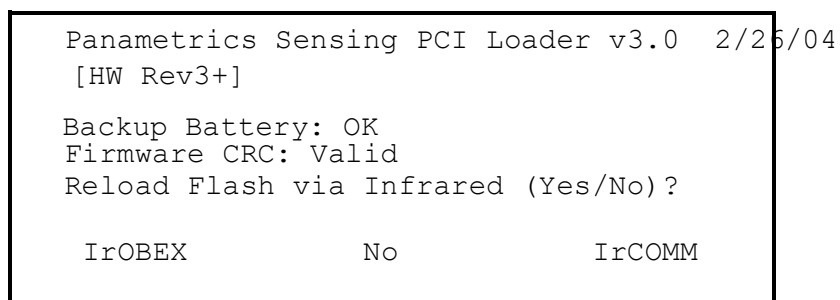

Figure 159: Flash Reloading Window
- Press **[F3]** (OK) to confirm that you wish to erase the program.
2. The meter asks for confirmation. Repeat the options shown in Step 1 above. The screen on both the PC and the PT878GC now appears similar to Figure 159 below.